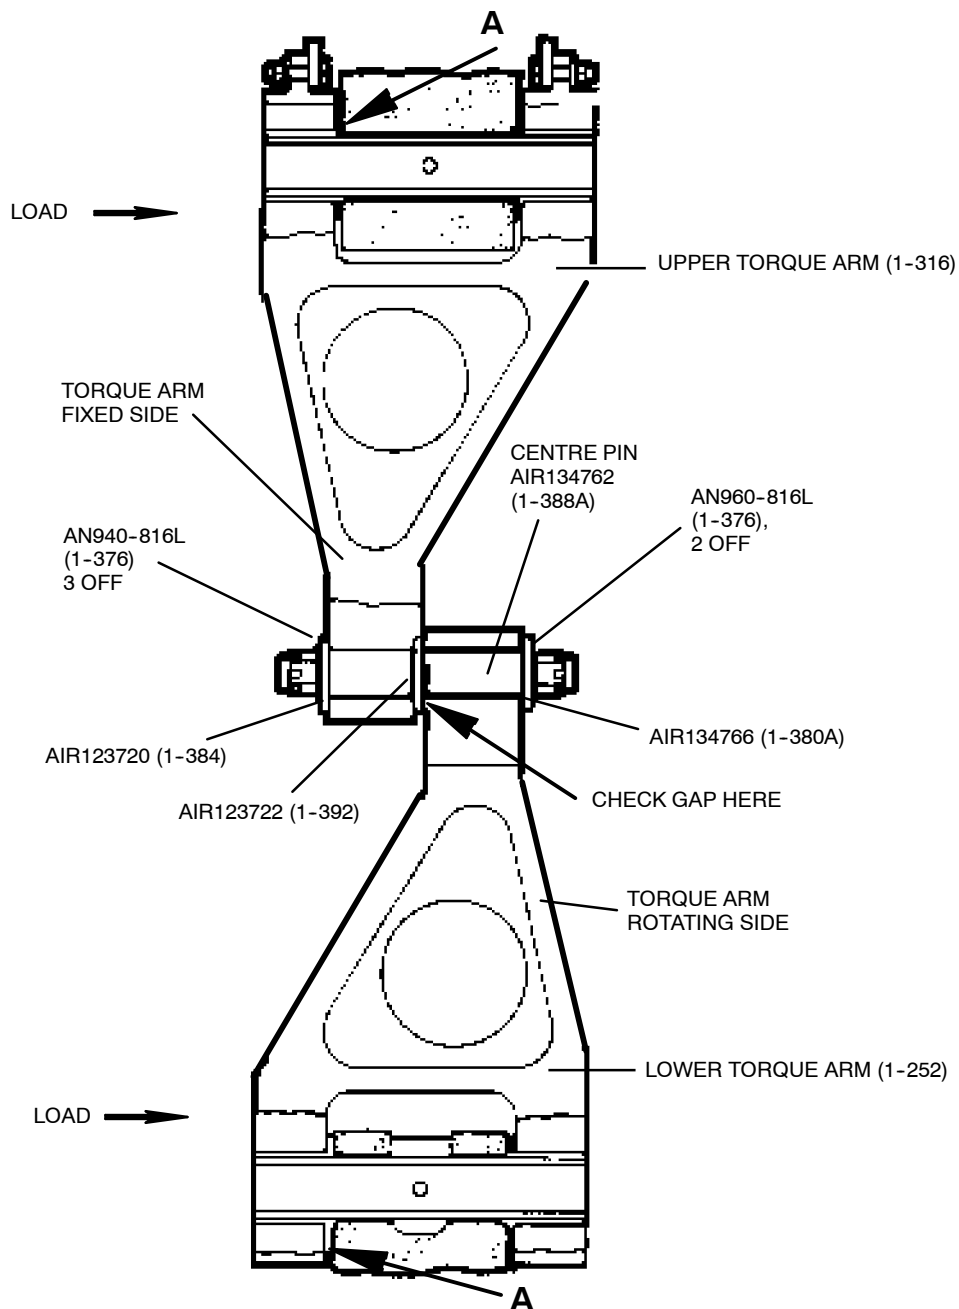

Figure 1
**MAIN LANDING GEAR SHOCK STRUT- REPLACE TORQUE ARM CENTRE PIN****2. ACCOMPLISHMENT INSTRUCTIONS (Figure 1)**
- (3) Install the lower torque link to the centre pin and install this assembly to the setting fixture AE7045. Refer to Figure 1. Use the adjusting screws of the setting fixture and push the torque link assembly in the direction of the arrows, check there are no gaps at the position A.
- (4) Measure the gap between the face of the centre pin and the flange face of the bush in the lower torque link. Adjust the shim (1-392) to between the size of the gap and the gap +0,05 mm (0.002 inch).
- (5) Remove the torque link assembly from the setting fixture, remove the lower torque link, the nut, washers and the pin.
- (6) Apply sealant AMS-S-8802 to the shim (1-392) and install the shim to the centre pin. Install the pin to the upper torque link to retain the shim adjacent to the shoulder. Install the washer (1-384), bracket (1-386), washer (1-376) and the nut (1-372). Tighten the nut to a minimum to remove any freeplay.
- (7) Install the lower torque link to the centre pin. Install the washer (1-380A), bracket (1-386), washer (1-376) and nut (1-372). Tighten the nut to a minimum to remove any free play.
- (8) Install the torque links assembly to the cylinder lug and the axle adapter, position the guide (1-152A) and details between the two brackets (1-386), take care not to damage the microswitch plungers.
- (9) Install the spacer (1-304) between the lugs of the axle adapter. Install the two torque link pins (1-280, 1-348).